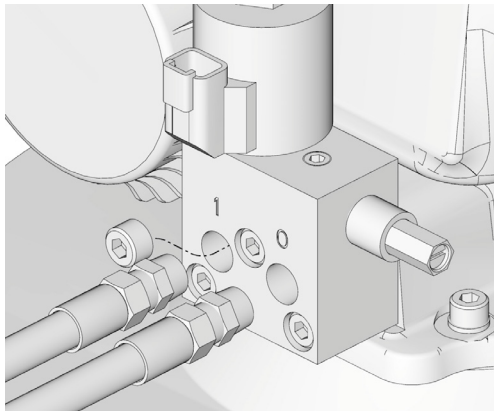

FIG. 6
9. Install lubrication line to vent valve pump outlet port marked "0" (FIG. 6).
10. In the inlet port marked "1" (FIG. 6) install either :